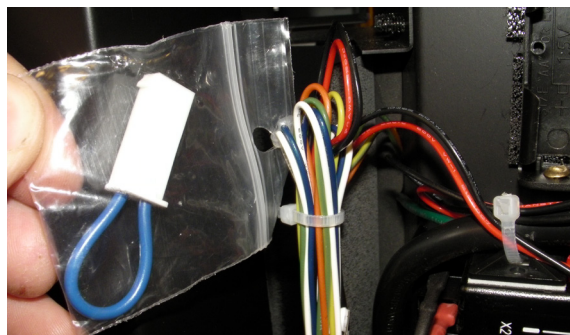

Figure 20.
2). Remove the bag containing the Jumper Cable from the wire harness connected to the controller as shown in Figure 20.